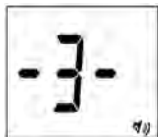

Figure 7
- Numbers 1 to 3 indicate speaking volume from low to high, where "1" is displayed on the LCD during testing. See Figure 7.